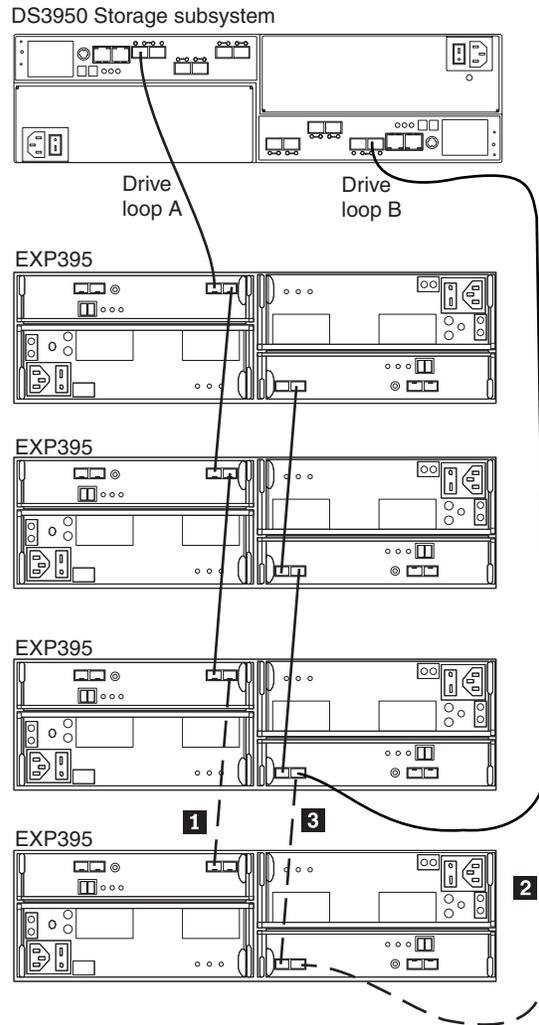

Figure 33. Cabling the EXP395 to an existing and configured drive loop
Figure 33 on page 67 shows an example of a DS3950 storage subsystem configured with redundant drive loop pairs.
The dashed lines in Figure 33 show how to add a new EXP395 to an existing DS3950 configuration with EXP395s. To add the new EXP395 shown in Figure 33, perform the following steps:
4. Make the fibre-channel connection marked **1** in Figure 33 (drive loop A) by connecting port 1A of the existing EXP395 to port 1B of the new EXP395 . Then verify that it is recognized by the DS Storage Manager software GUI.
5. Move the existing fibre-channel connection marked **2** in Figure 33 from the existing EXP395 enclosure ESM port 1B to the new EXP395 enclosure ESM port 1A.
6. Make the fibre-channel connection marked **3** in Figure 33 (drive loop B) by connecting port 1A of the new EXP395 to port 1B of the existing EXP395.